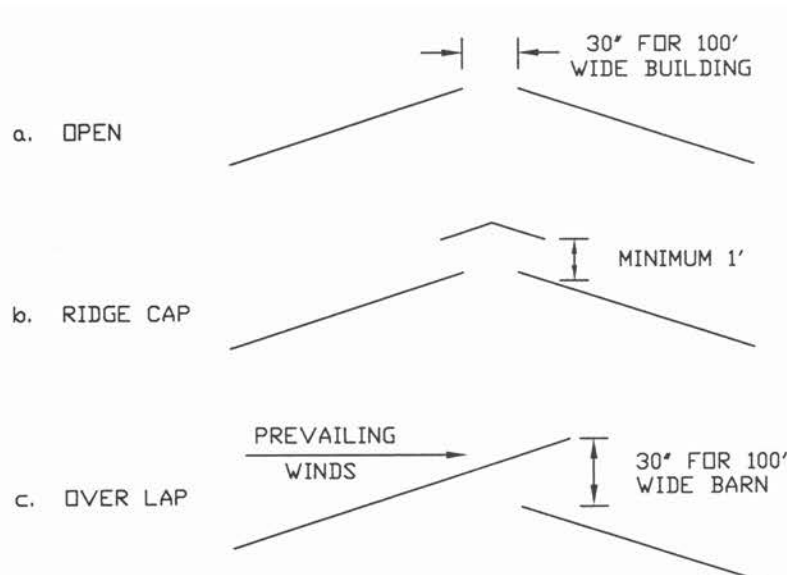

Figure 3. Alternative Ridge Openings
- The ridge vent (Figure 3) should be at least 1 foot wide plus 2 inches for each 10 feet of structure width over 20 feet (about 30 inches for a 100-ft wide building). The vent is best if uncapped (Figure 3a), but if necessary a ridge cap (Figure 3b) may be installed. It should have at least 1 foot of clearance between it and the roof peak. Another type of ridge vent extends one side of the roof over the vent (Figure 3c). If this is used, the open side should be away from prevailing winds (usually on the South side) to minimize rain entering the opening. This type should only be used if wind direction is fairly constant and known with certainty, since wind from the wrong direction keeps the system from working as designed. The feed alley should be sloped to the middle, to let any rainwater drain away from the feed.